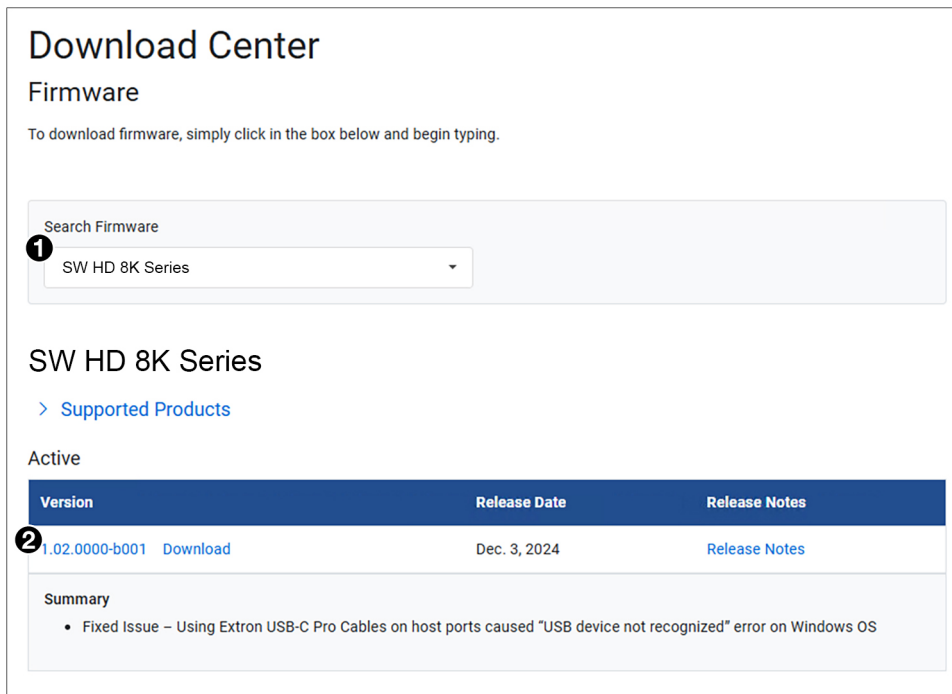

Figure 23. SW2 HD 8K Firmware Download Center Page
- On the Firmware Download Center screen, click on the down arrow in the Search Firmware box (see figure 23, ❶), and select **SW2 HD 8K** from the drop-down list. If you need an Extron Insider ID number to access this box, see your Extron representative.